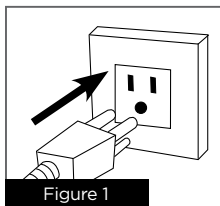

Figure 1
3. Plug unit into your wall outlet (See Figure 1). The sous vide display will light up. The “SET” display temperature setting will blink to indicate that the temperature is ready to be changed. The “LIVE” part of the display will show the actual temperature of the water in your container/pot.